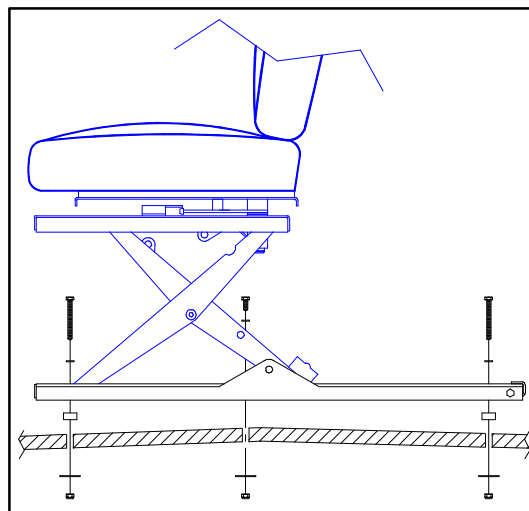

FIGURE 2-8: BASE FRAME MOUNTING
- q. Refer to **Figure 2-8**. Insert six mounting screws through Base Frame mounting holes.